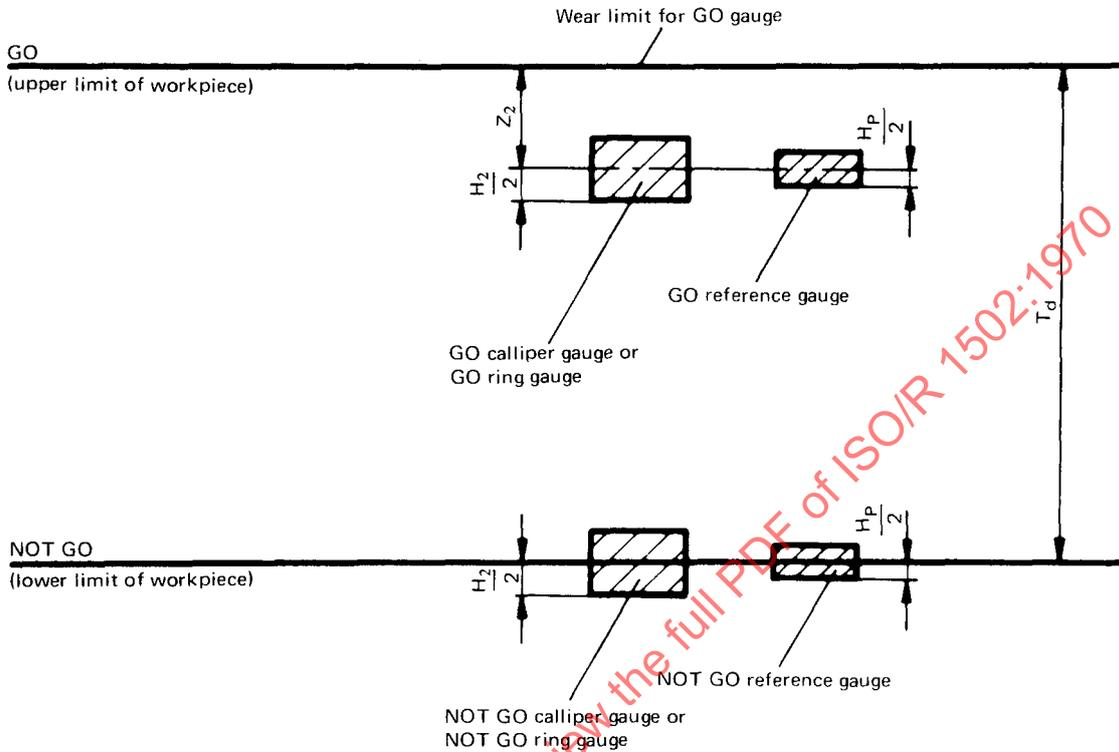

FIG. 3 - Tolerance zones for plain gauges for major diameter of external threads (schema)
8. TOLERANCE ZONES FOR PLAIN GAUGES (See Fig. 3 and 4)